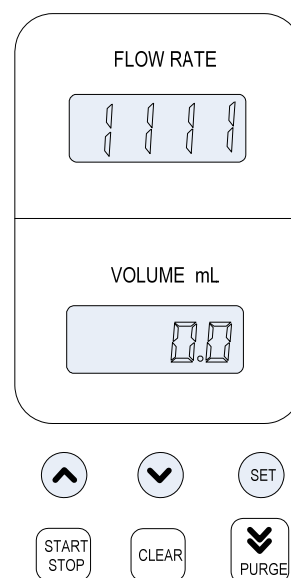

Figure 1 IV set calibration
2. Keep pressing [INCR] key and simultaneously switch on the pump, “FLOW RATE” area displays “1111” (see Figure 1).
2. Keep pressing [INCR] key and simultaneously switch on the pump, “FLOW RATE” area displays “1111” as figure 1.
2. Keep pressing [INCR] key and simultaneously switch on the pump, "FLOW RATE" area displays "1111" (see Figure 1).